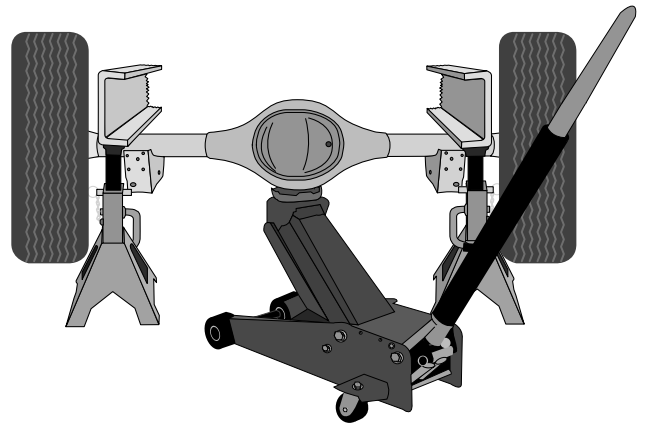

Fig. 1
1. Raise the vehicle and support it in a way, using safety stands or equivalent, that the axle can be safely lowered away from the frame. This will need to be done in order for the air spring assembly to be put into position between the axle and frame (Fig. 1).